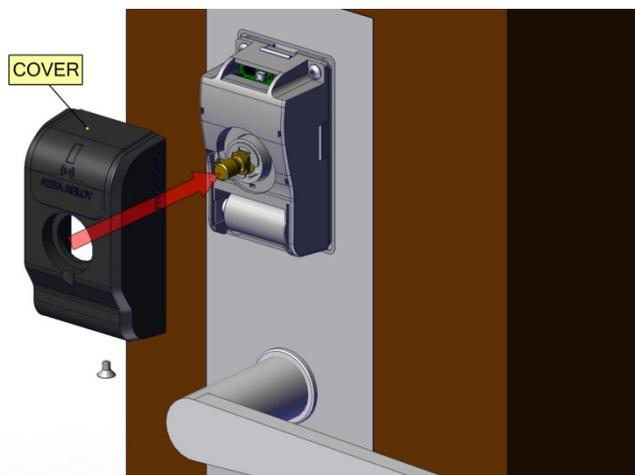
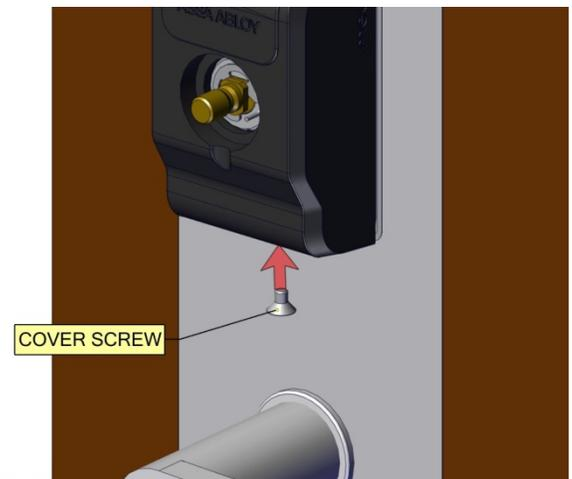

Fig. 16
Fig. 17
Step 7: Install cover assembly (Fig. 16) and cover screw (Fig. 17).